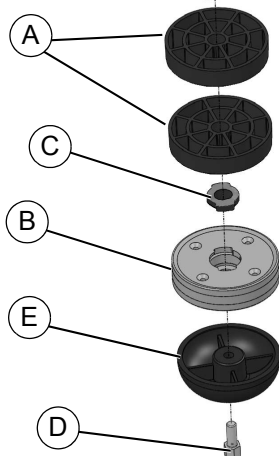

Figure 4-2. Cord Head Assembly
1. See Figure 4-2. Install molded spacers (A), quick lock (B) and adapter (C) onto the shaft.